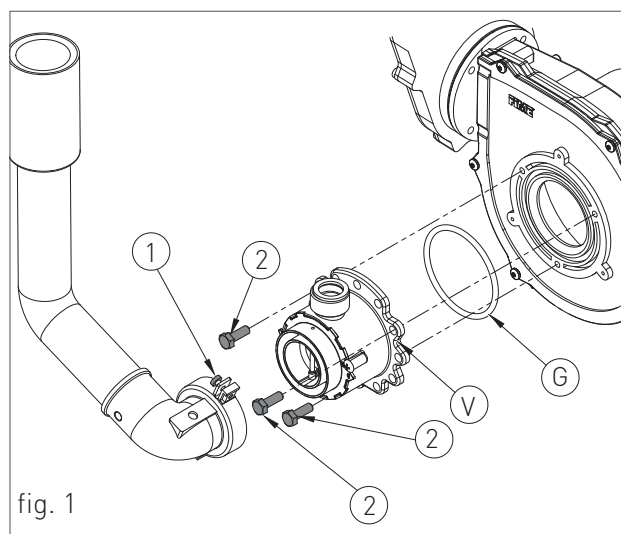
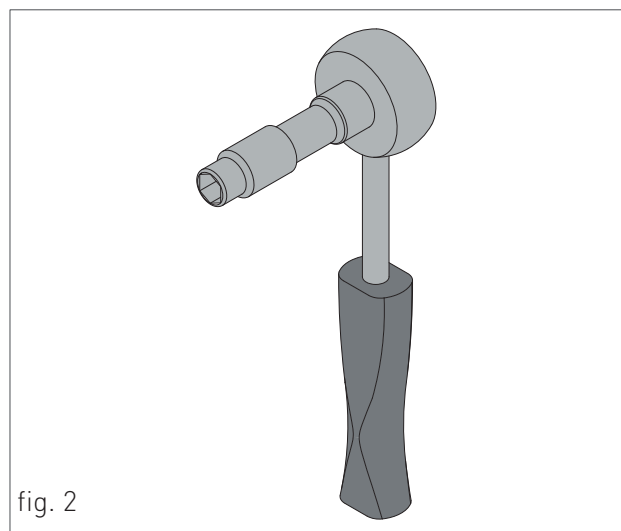

fig. 1
fig. 2
- › loosen the two screws '1' (fig.1) from the fastening bush, and remove the air suction tube;
- › unscrew the three fastening screws '2' (fig.1) of the venturi 'V' (fig.1) using a 10 key, as shown in figure 2;
- › remount the components following the demounting operations in reverse making sure that gasket 'G' is re-assembled as shown in fig.1;
5. FLAME PRESENT SIGNALLING / IT ALSO INDICATES, ON 3 PERCENTAGE LEVELS, THE MODULATING POWER LEVEL OF THE WATER HEATER (fig.2)